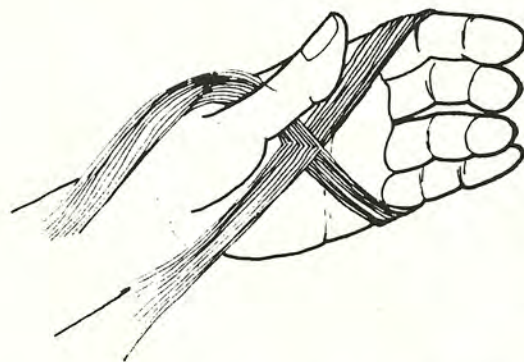

fig. 7
2. Lift the warp chain off board or posts. Place left hand through the warp cross with fingers in top loop and thumb below cross (fig. 7). Remove cross tie.